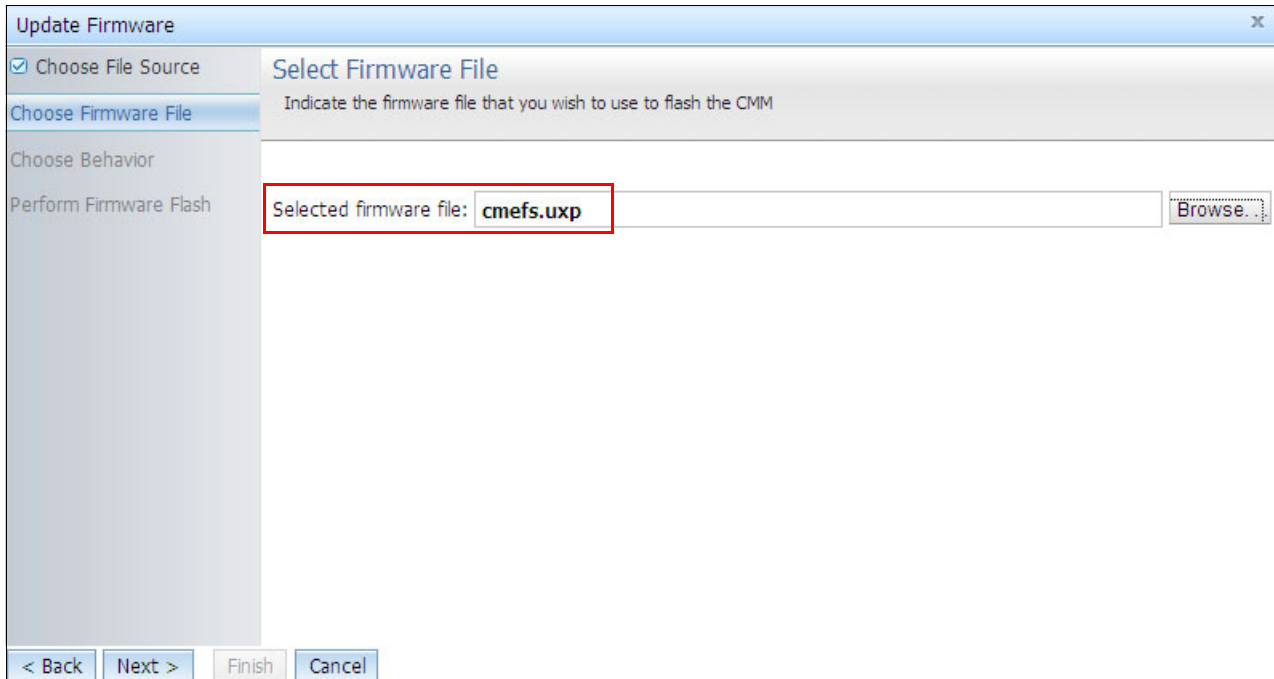

Figure 4-22 Select Firmware File window
5. Click **Browse**, and select CMM firmware file in your local directory, as shown in the Figure 4-22. Click **Next**.